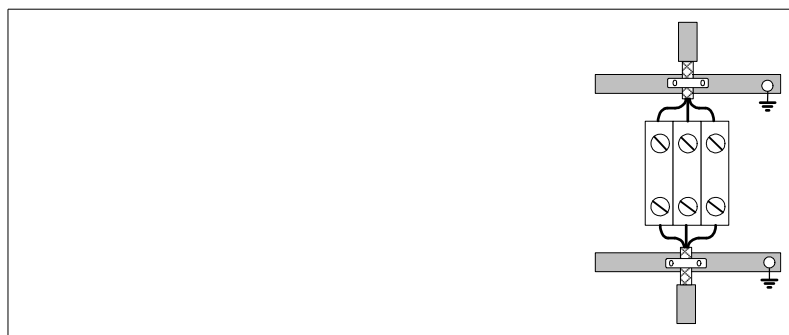

FIGURE H8.6
- If it is not possible to use shielded connectors (with metallic housing), make the cables as short as possible to ensure the best connection between the cable shields . See **FIGURE H8.6**.